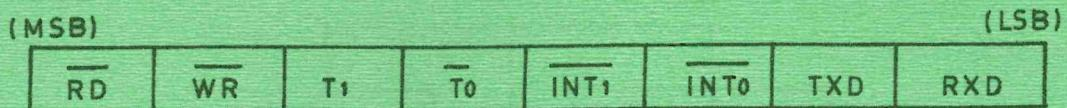

Fig. 3
- (b) Figure 3 shows the I/O port structure of a microcontroller.